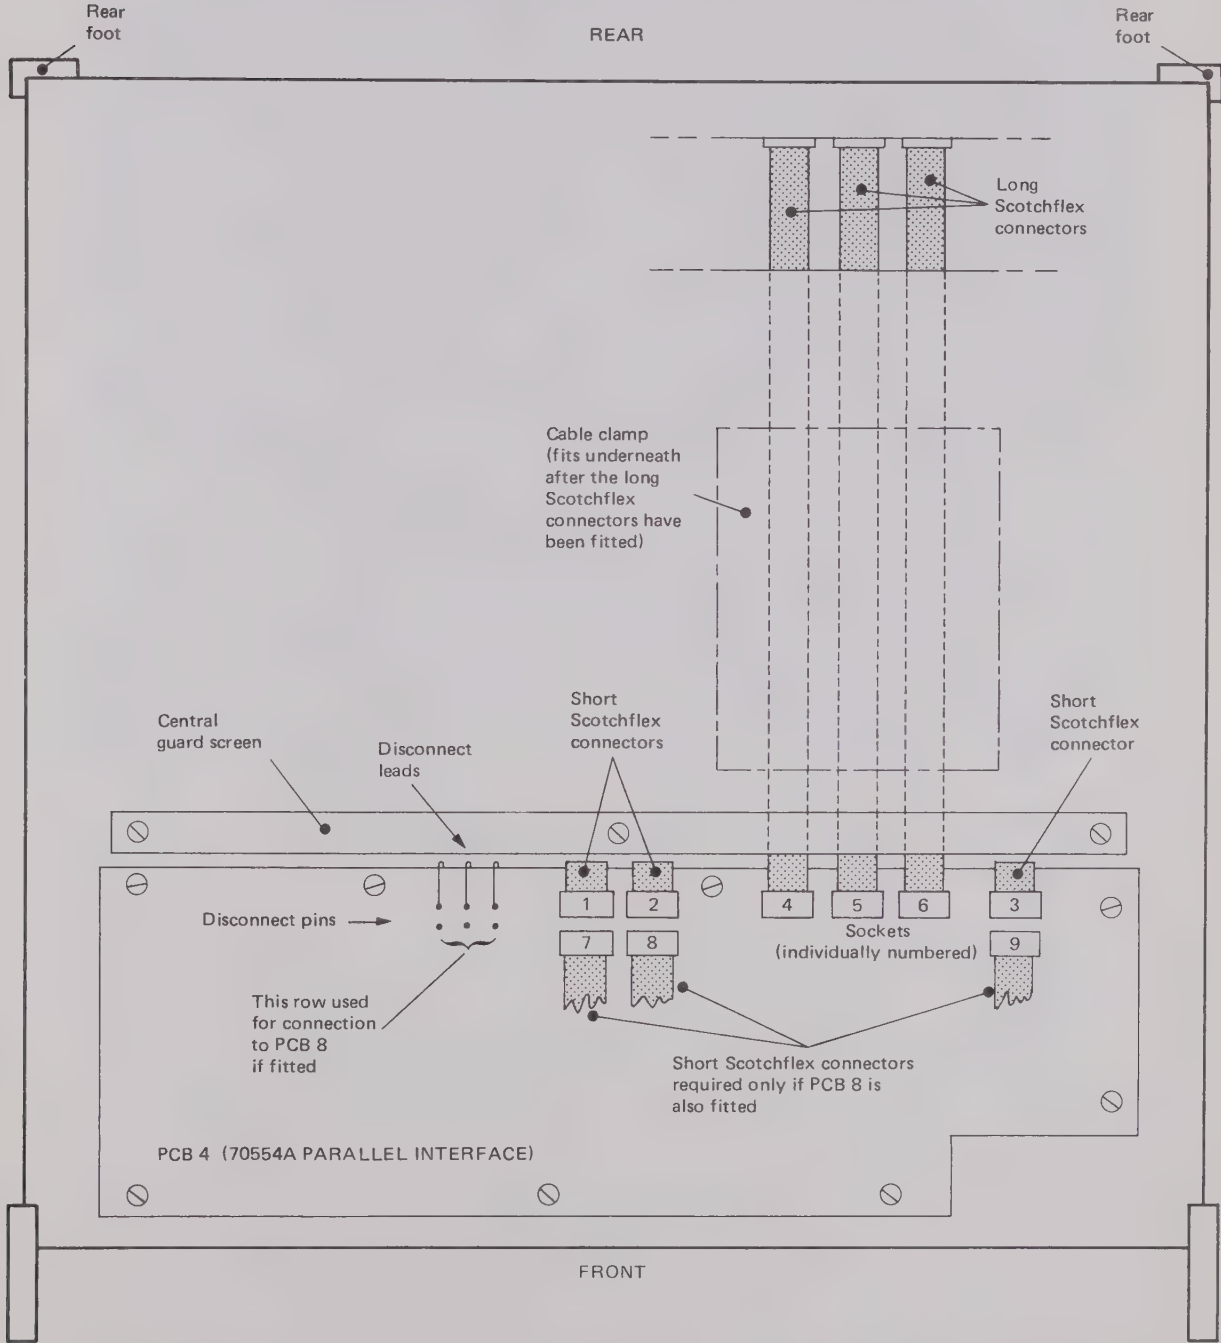

Fig. 5 Simplified plan view of the instrument showing PCB 4 and interconnections
Pcb 4 is now fully fitted to the instrument (see Fig. 5 to verify correct interconnections). However if it is required to fit/replace pcb 8 instructions 11–17 should now be carried out. If pcb 8 is not to be fitted proceed directly to instruction 18.
13. Fit the 3 short Scotchflex connectors to sockets 7, 8 and 9 on pcb 4. (Figs. 5 and 6) such that the cables point toward the front of the instrument.